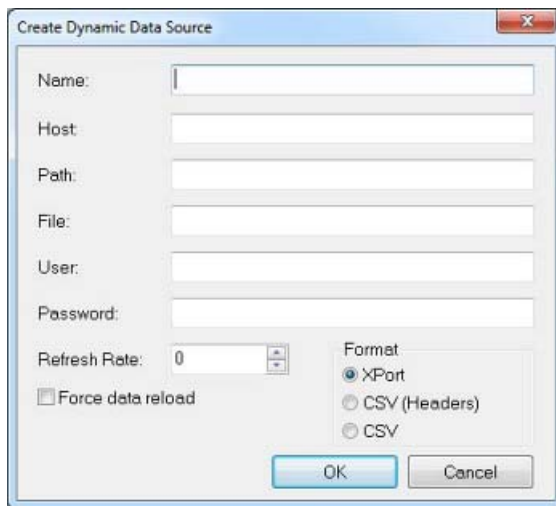

FIG. 126 Create Dynamic Data Source dialog
- 1. In the *Dynamic Data Sources* tab of the Resource Manager, click **New** to open the *Create Dynamic Data Source* dialog (FIG. 126):